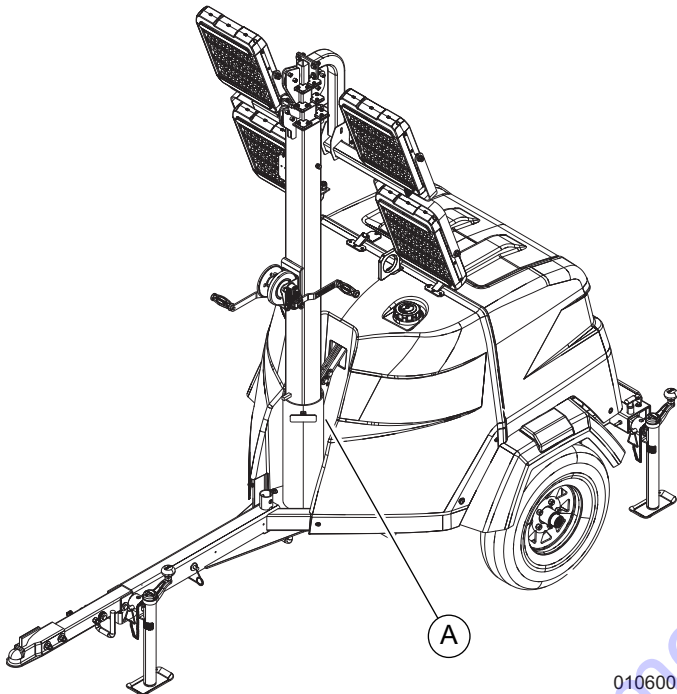

Figure 3-48. Sensor, Shield Located Behind Mast
See Figure 3-48. Units equipped with Power Zone Autolight controller are also equipped with a *dusk-to-dawn sensor* (A), which senses light and accordingly starts and stops the unit.